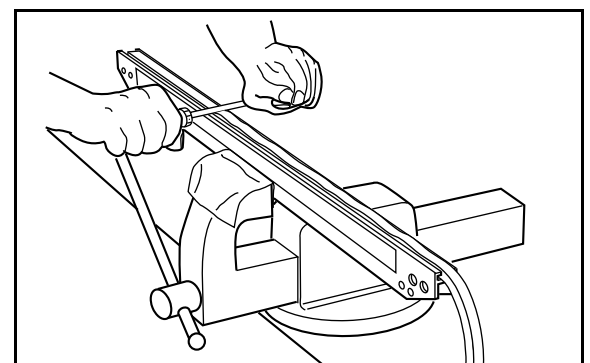

Fig. 24 Press silicon rubber/seal ledge
- 7 When using silicon rubber. Press firmly into groove/channel, chamfer each end at approx 45°. See Fig. 24.